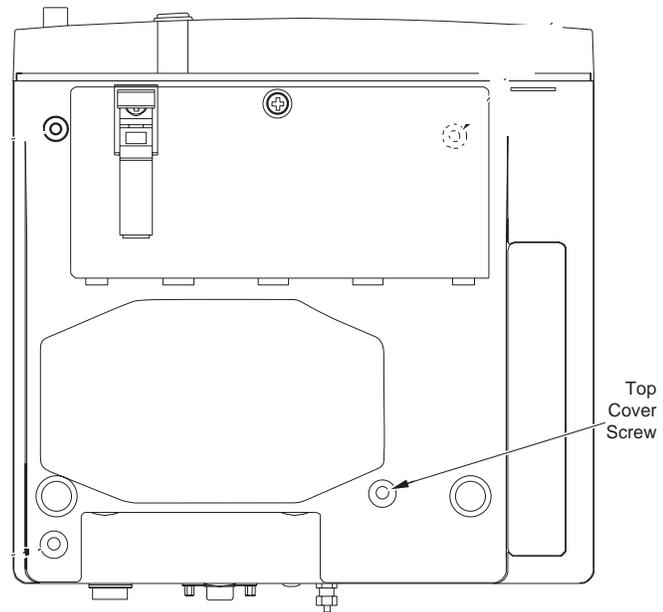

Figure 7-6: Recorder/Printer Module Retaining Screw
3. Turn the monitor upside down and remove only the screw located towards the rear of the monitor on the side of the handle (see "Figure 7-6: Recorder/Printer Module Retaining Screw").
9. Turn the monitor upside down. Install and tighten the recorder/printer retaining screw (see "Figure 7-6: Recorder/Printer Module Retaining Screw").